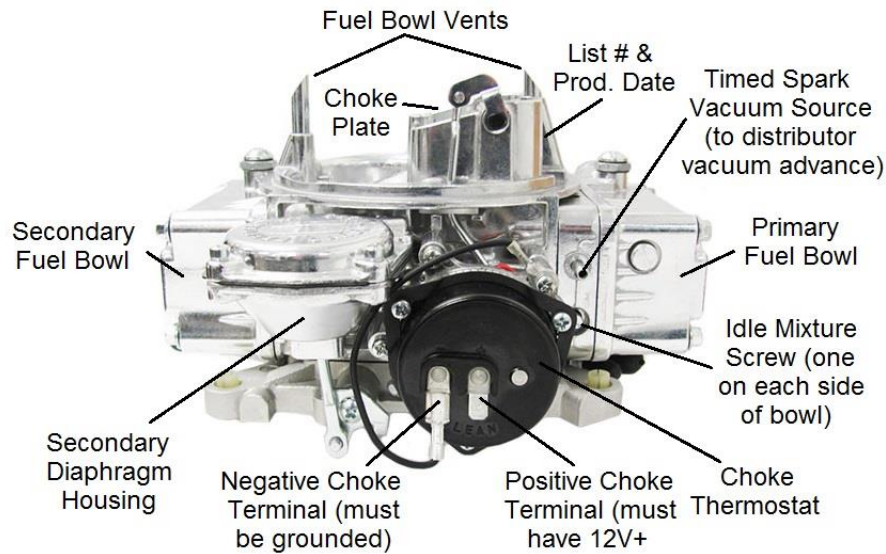
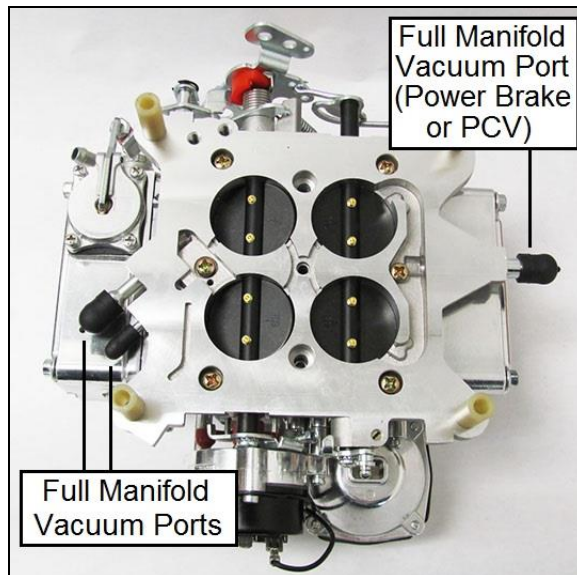

Figure 2a.
Figure 3
6. Reconnect the appropriate vacuum hoses to the carburetor, noting the correct fitting from **Figure 2a** and **Figure 3**. Replace any cracked or dry rotted hoses at this time to prevent any vacuum leaks.
8. Connect the power brake and/or PCV hose to the fitting (**Figure 3**).
1. Attach the vacuum gauge to a manifold vacuum port on the throttle body (**Figure 3**).